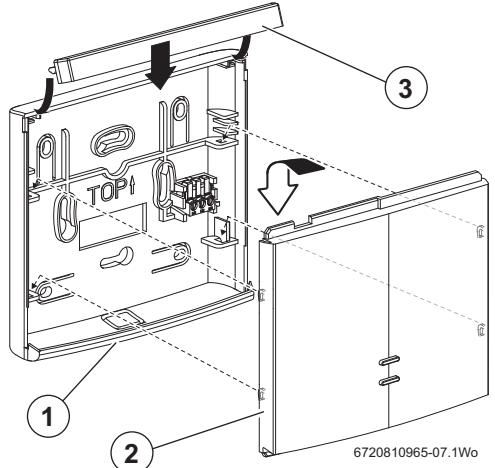

Fig. 4 Fitting the Receiver to wall plate assembly
- ▶ Engage the four clips on the back of the Receiver [2] with the four slots on the wall plate as shown in figure 4